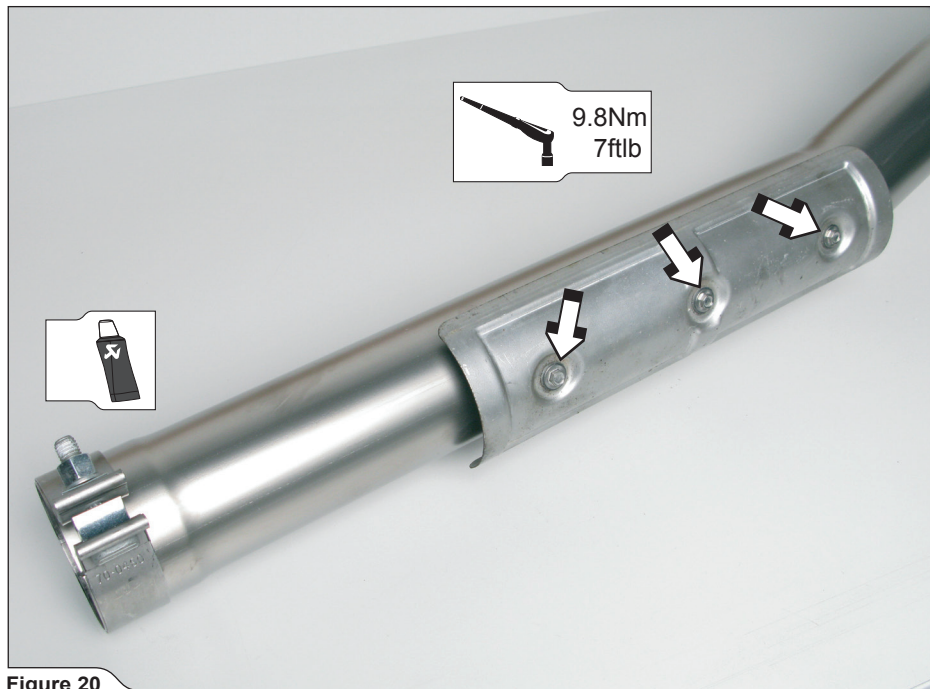

Figure 20
9. **For Evolution only:** tighten the heatshield onto the middle pipe and slide the clamp onto the inlet, as shown (**Figure 20**).